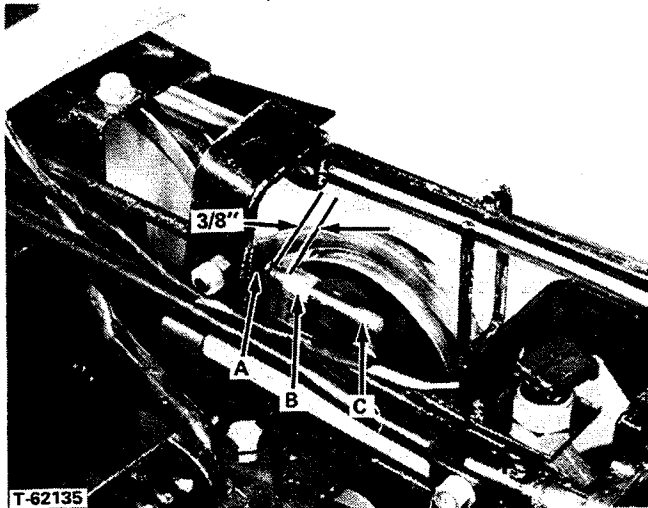

FIGURE 35 - Clutch Rod Clearance Adjustment
- Pull back firmly on the clutch rod (C, Figure 35). There should be a $\frac{3}{8}$ " (9.5 mm) gap between the clutch rod guide (A) and the clutch rod adjusting nut (B).